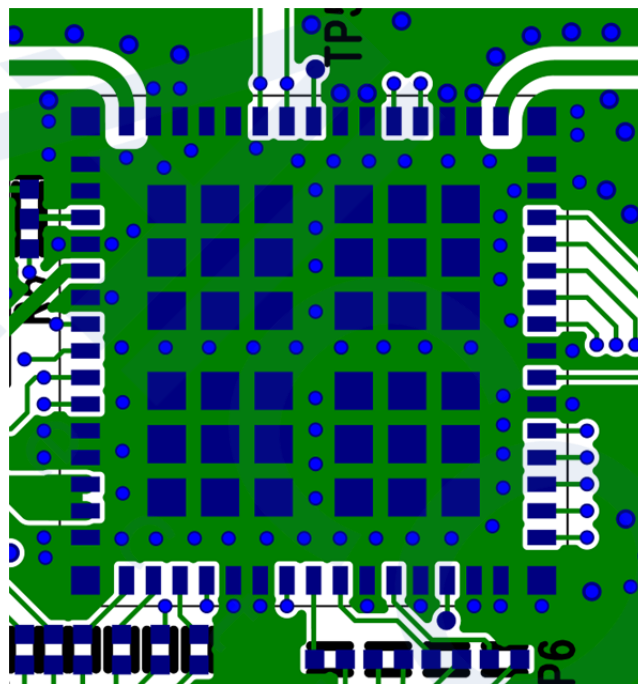

Figure 9-1 Module Layout : Layer-1
- The proximity of ground vias must be close to the pad. (See Figure 9-1)